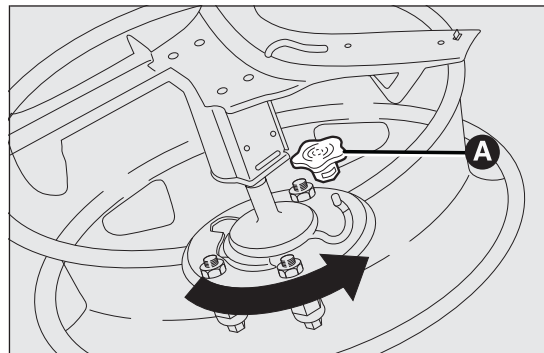

fig. 126
- ☐ Fix the toothed support on the wheel by means of two screws (insert in the outer wheel support). Refit the restraining metallic wire in the seat and refit the protective cap A fig. 126;